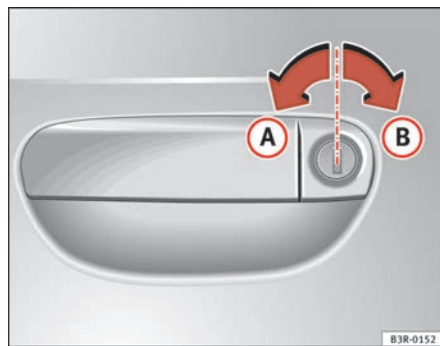

Fig. 69 Turning the key to enable the open and close functions
- To unlock the vehicle, turn the key in the driver's door to position **A** ⇒ fig. 69.
- To lock the vehicle, turn the key in the driver's door to position **B** ⇒ fig. 69 ⇒ ⚠.
To do so, turn the key in the driver's door **twice** in quick succession to position **B** ⇒ fig. 69.